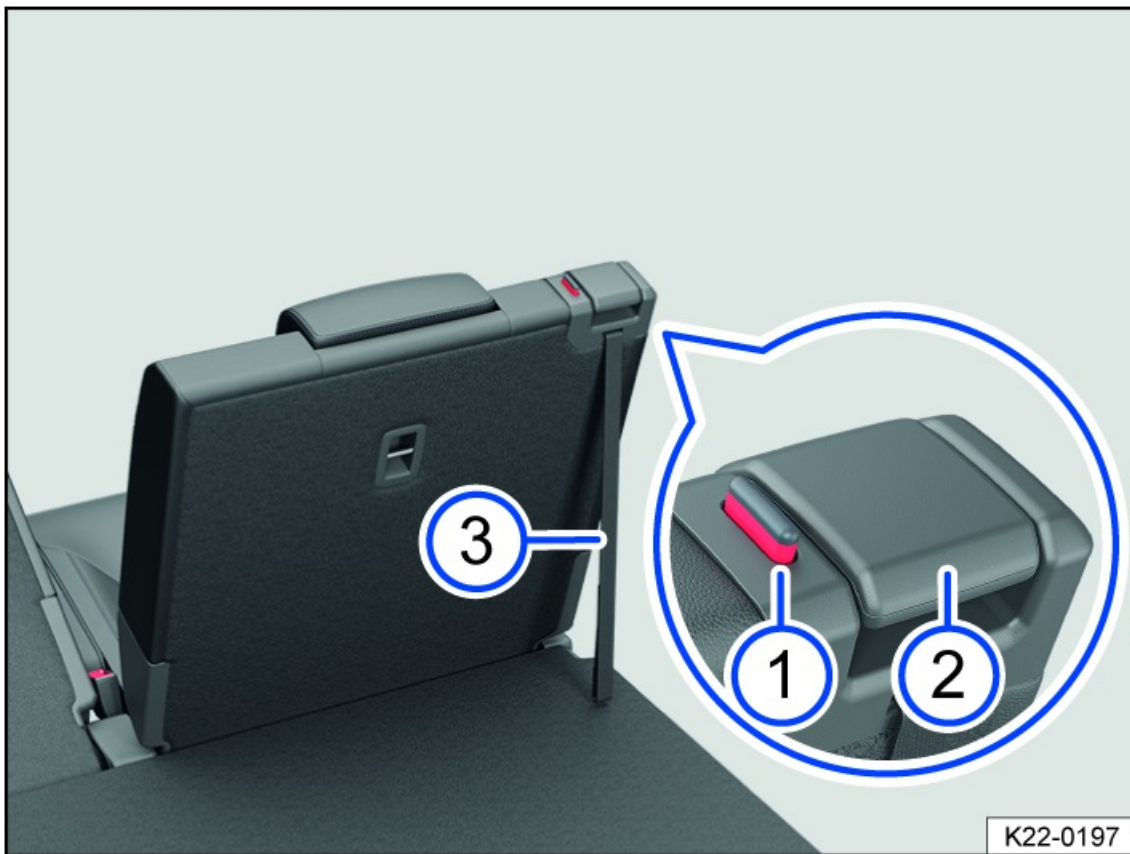

Fig. 64 Third row seat: folding the rear seat into the cargo floor position.
8. To release the rear seat backrest, pull the release lever *fig. 64* all the way up.
Or: to fold back the rear seat backrest from the luggage compartment area, pull on the loop on the rear seat backrest *fig. 64*.
The red marking on the release lever *fig. 64* must no longer be visible.
- A red marking on the release lever *fig. 64* indicates that the rear seat backrest is not latched. The red marking must not be visible when the backrest is latched.